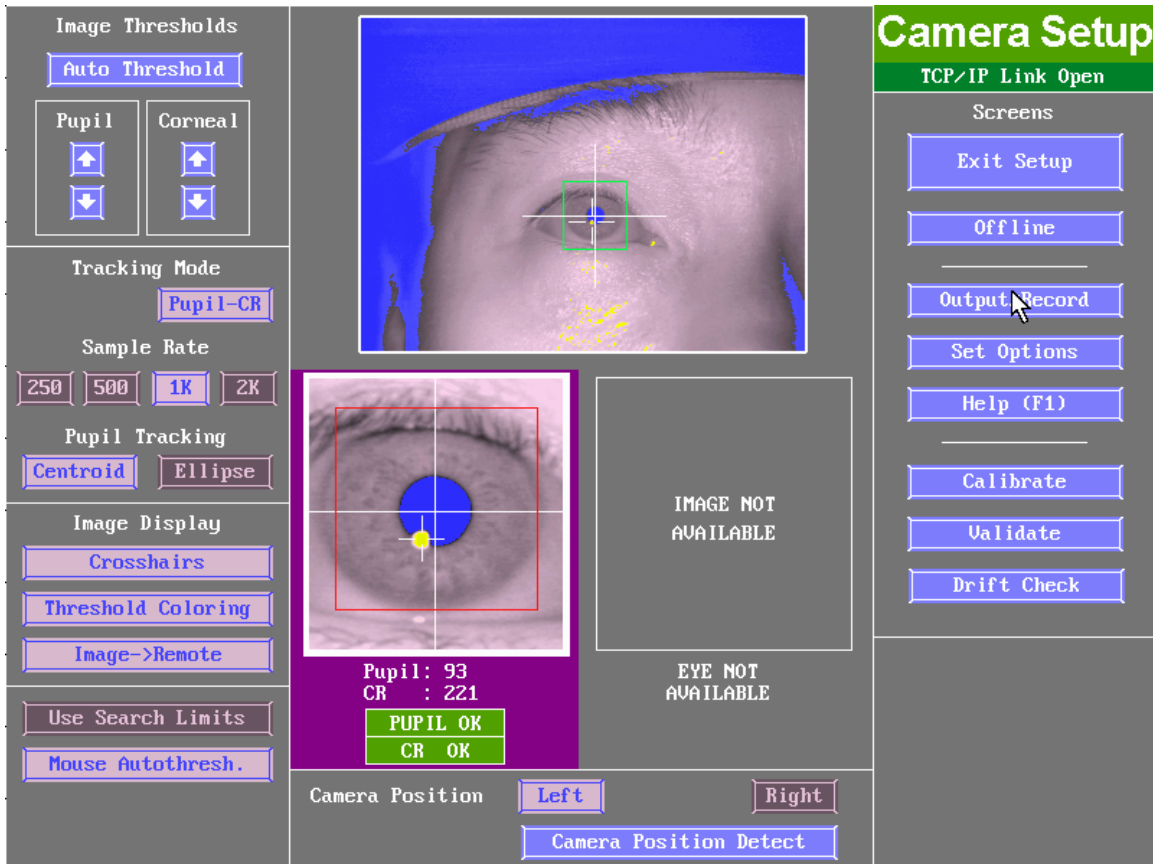

Figure 4-23 EyeLink 1000 Tracker Application Camera Setup screen.
- If you are using an EyeLink 1000 Desktop Mount, remove the lens cap from the eye camera by pulling it outwards while holding the camera. Loosen both the Lock knob and the Friction knob, adjust the tilt of the camera so that the intended eye image appear at the proper location of in the global view of the camera image. For monocular recording, the tracked eye should appear in the center of the camera image (see Figure 4-23). For binocular recording, the tracked eye(s) should appear in the center of the respective camera hemifield(s) divided by the dotted line. Tighten both knobs once the vertical position of the eye is in the intended camera image. The eye camera should be focused by rotating the lens holder.
A screenshot of the large field of view of the EyeLink 1000 camera (tower Mount) is illustrated in Figure 4-23.